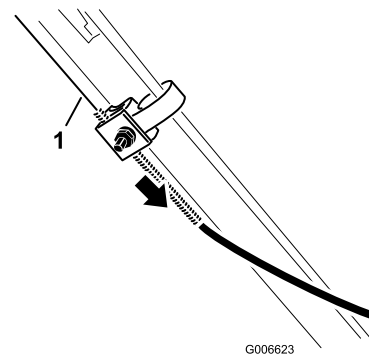

Figure 27
3. Pull the cable jacket downward until you remove the slack in the exposed cable (Figure 27).